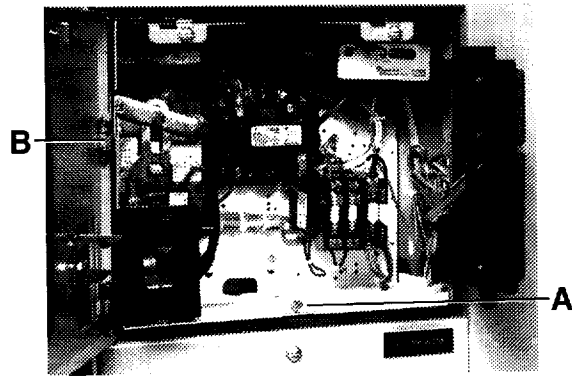

Figure 5. Typical control center starter unit showing (A) disconnect screw and (B) three-piece hinge.
A unit disconnect screw (A), Figure 5, near the base of the draw-out units is used for insertion and removal of units. An optional cover for the unit disconnect screw may be provided to prevent access to the screw unless the unit line disconnect is switched to the OFF position.